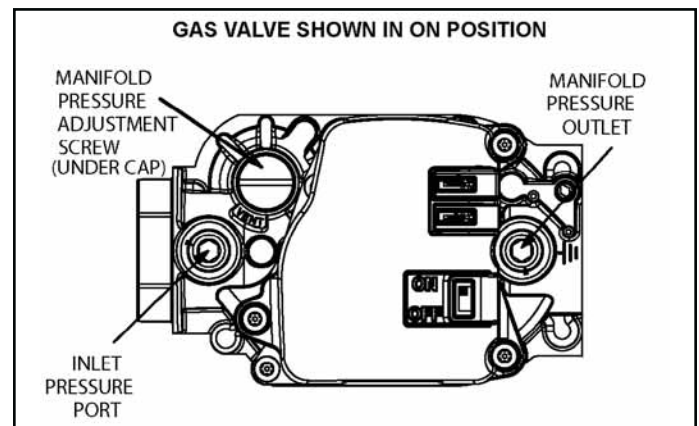

Figure 67.
See Figure 67
6. Move gas valve switch to OFF. See Figure 67.
8. Move gas valve switch to ON. See Figure 67.
When testing supply gas pressure, use the 1/8" N.P.T. plugged tap or pressure post located on the gas valve to facilitate test gauge connection. See Figure 67. Check gas line pressure with unit firing at maximum rate. Low pressure may result in erratic operation or underfire. High pressure can result in permanent damage to gas valve or overfire.